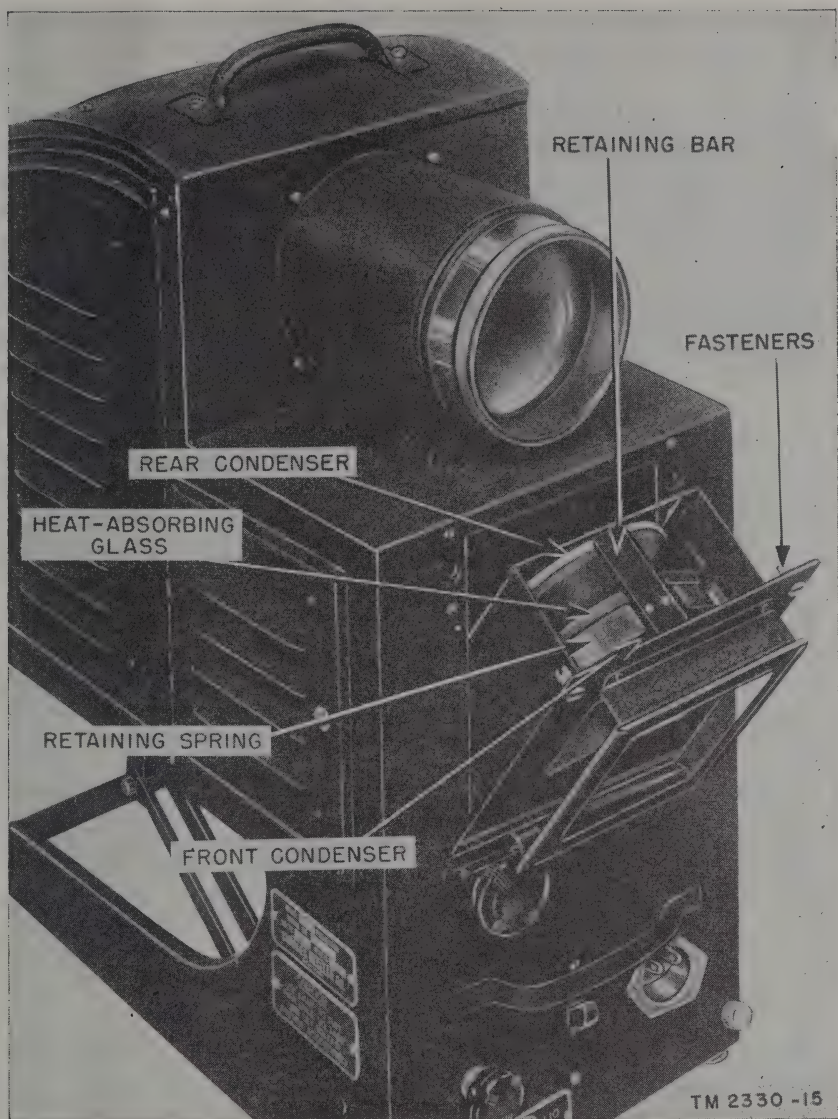

Figure 15. Condenser compartment open for removal of condensers and heat absorbing glass.
33. Cleaning Condensers and Heat-Absorbing Glass (fig. 15)